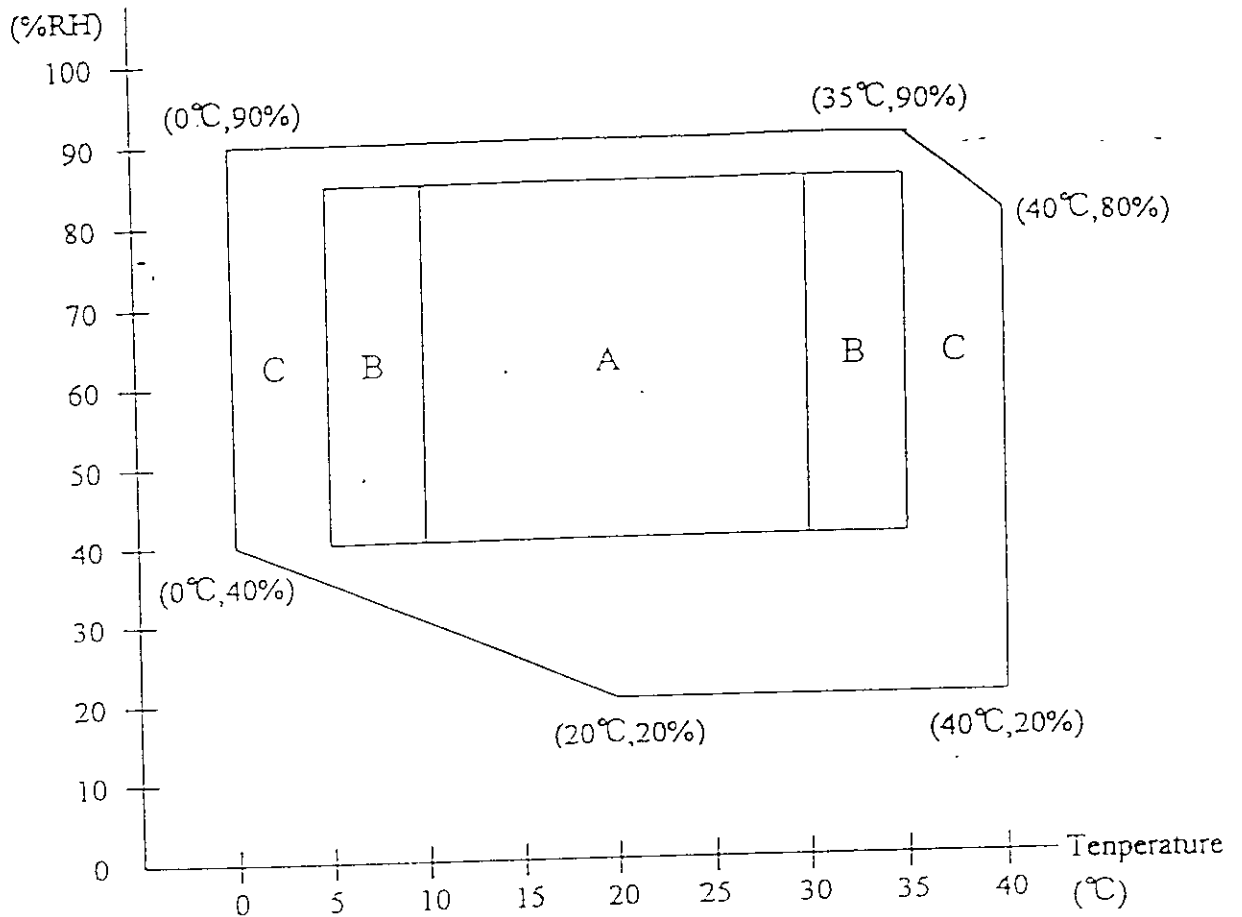

Fig. 2.8.1
(1) Ambient temperature
- a) Operating : See Fig. 2.8.1
(2) Relative humidity